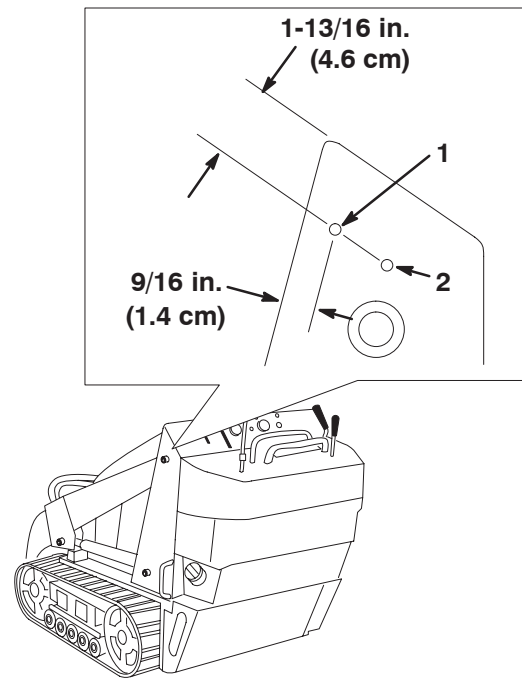

Figure 3
1. Measure in from the edges of the frame as illustrated in Figure 3 and mark the location of the first hole for mounting the shield bracket.
2. Use the mounting bracket as a template to locate and mark the position of the second hole (Fig. 3).